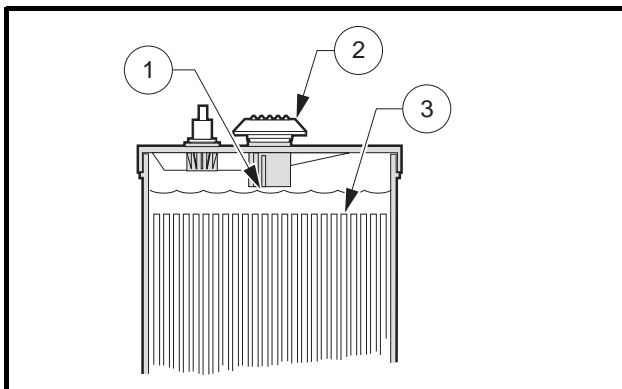

Figure 16 Electric Battery Electrolyte Level
2. The electrolyte level in the batteries should be checked weekly (**Figure 16**). Add water only after charging unless the electrolyte level is below the top of the plates. In this case, add just enough water to cover the plates, charge and then check the level again. Never charge batteries if plates are exposed above electrolyte level. For best battery life, add only distilled water. **See following CAUTION and NOTE.**